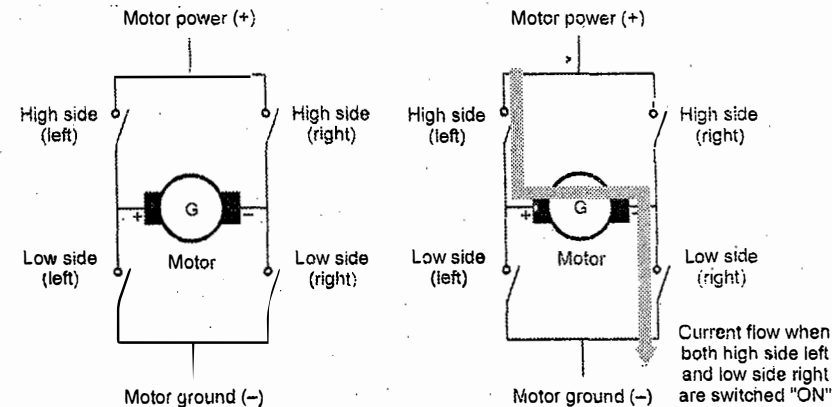

Fig. Q.23.1 H bridge PWM speed control
- The name "H-bridge" is derived from the actual shape of the switching circuit which controls the motion of the motor. It is also known as "full bridge". Basically there are four switching elements in the H-bridge as shown in the Fig. Q.23.1.
- As can seen in the Fig. Q.23.1. there are four switching elements named as "high side left", "high side right", "low side right", "low side left". When these switches are turned on in pairs, motor changes its direction accordingly. Like, if we switch on high side left and Low side right then motor rotate in forward direction, as current flows from power supply through the motor coil goes to ground via switch low side right. When you switch on low side left